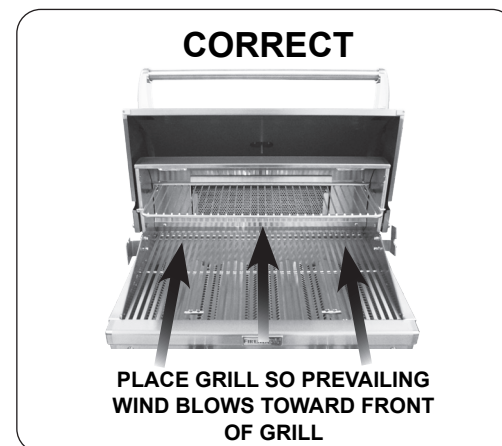

Fig. 20-3 Airflow direction - CORRECT
**CAUTION:** Wind blowing into or across the rear oven lid vent (Fig. 20-4) can cause poor performance and/or dangerous overheating. Install the grill so that the prevailing wind blows toward the front of the grill (Fig. 20-3). **A wind deflector is available for purchase to assist in proper airflow during windy conditions.** See Table 3 for model numbers. Follow the instructions included with the wind deflector for installation.